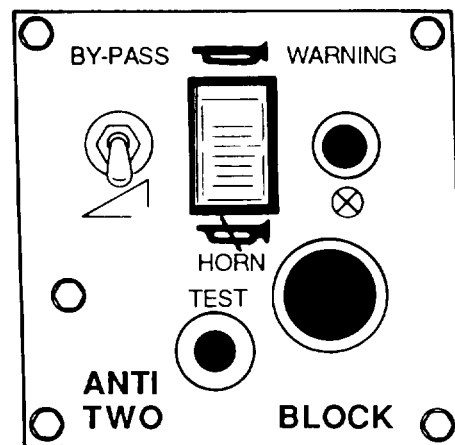

Figure 5-9. *Anti-Two Block Panel*
- e. Start engine. Hold on anti-two block BY-PASS switch (Figure 5-9).